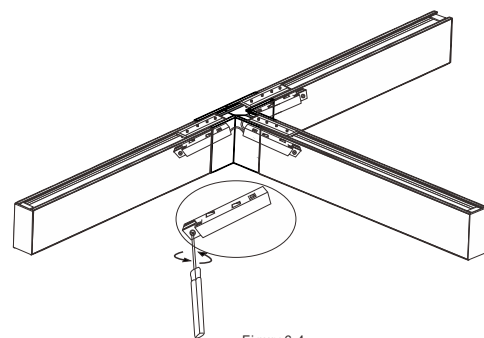

Figure6.4
4. After the T-type guide connector is installed, tighten the three-end safety buckle clockwise with a word screwdriver to ensure complete fastness Load the track and check whether the track is on or not. (Figure 6.4)